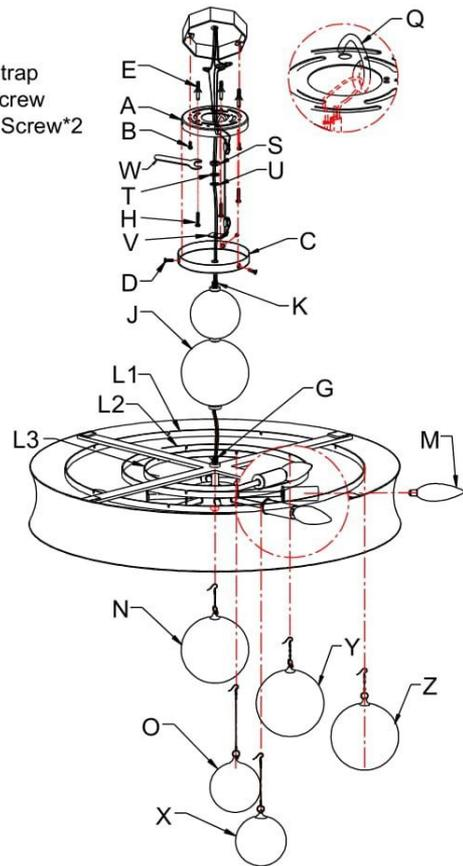

Fig. 4
CONNECTING THE WIRES (Fig. 4)
8. Connect the electrical wires as shown in figure 4, making sure that all wire connectors are secured. If your junction box has a ground wire (green or bare copper), connect the fixture's ground wire to it. Otherwise, connect the fixture's ground wire directly to mounting plate (A) using the green screw provided.
7. Connect the electrical wires as shown in figure 4, making sure that all wire connectors are secured. If your junction box has a ground wire (green or bare copper), connect the fixture's ground wire to it. Otherwise, connect the fixture's ground wire directly to mounting plate (A) using the green screw provided.